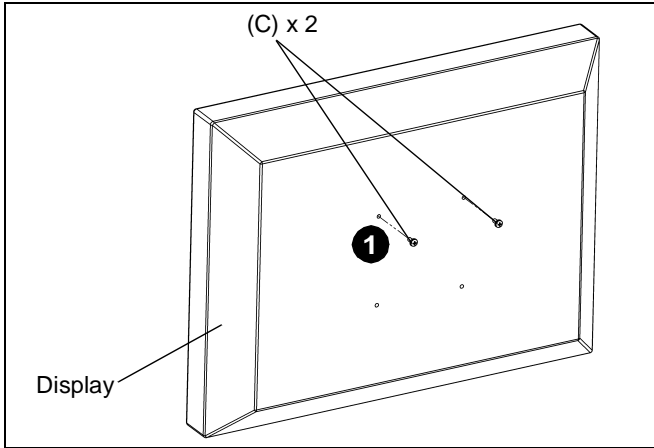

Figure 3
1. Install two M4 x 12mm Phillips pan head screws (C) into two upper mounting holes in display back. (See Figure 3)